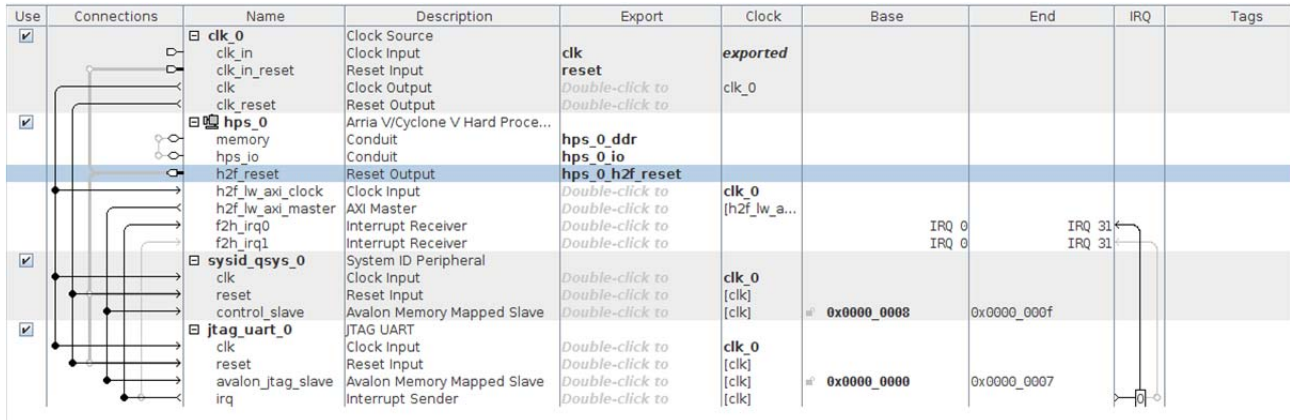

Fig. 34: Connection of the JTAG UART element.
14. Add a JTAG UART peripheral selecting it in Interface Protocols->Serial. Leave the default parameters. This peripheral generates interrupts. Edit the HPS system and check the FPGA to HPS interrupts. Two new terminals will be added to the HPS. Connect the JTAG UART as depicted in Fig. 34